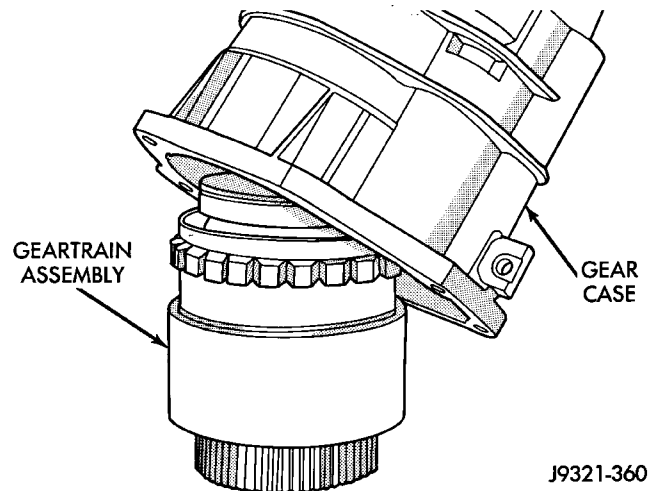

Fig. 242 Overdrive Gear Case Installation
(7) Support geartrain on Tool 6227-1 (Fig. 242). Be sure tool is securely seated in clutch hub.
(8) Install overdrive gear case on geartrain (Fig. 242).